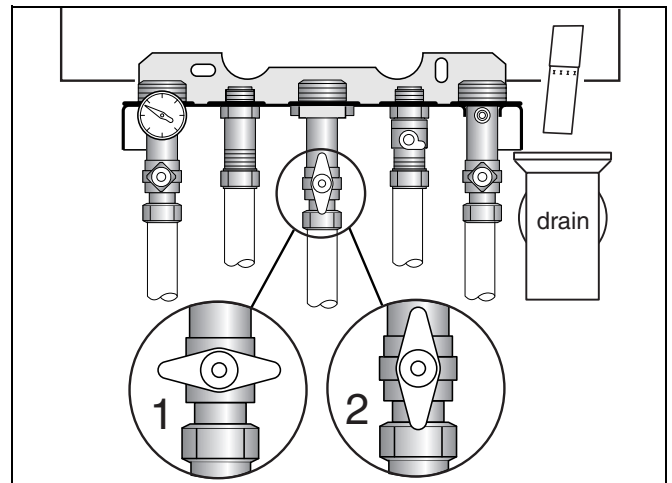

fig. 51 Gas valve
- Close the gas shut off valve (fig. 51, item 1).
- Slowly open the gas shut off valve (fig. 51, item 2).
- Shut the gas shut off valve underneath the boiler (see fig. 51, item 1).
- Open the gas shut off valve (see fig. 51, item 2).
- Shut the gas shut off valve (see fig. 51, item 1).